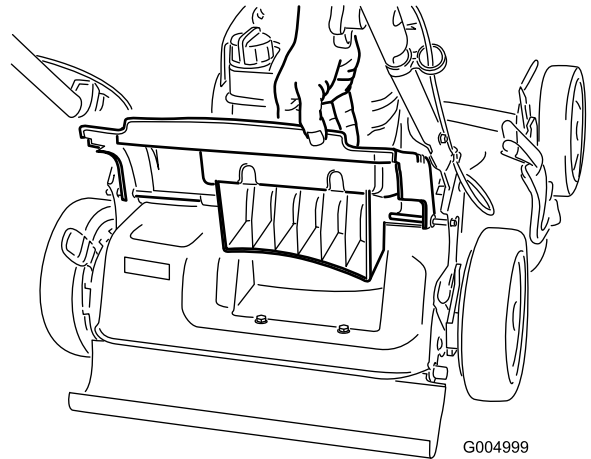

Figure 18
1. Raise and hold up the rear door (Figure 18).